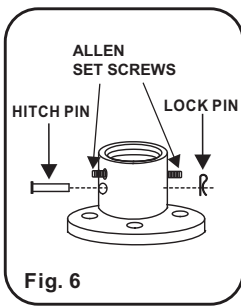

Fig. 6
Step 2. Loosen the two Allen Set Screws and remove the hitch pin and lock pin from the coupling located on the top of the Motor Assembly. (Fig. 6)